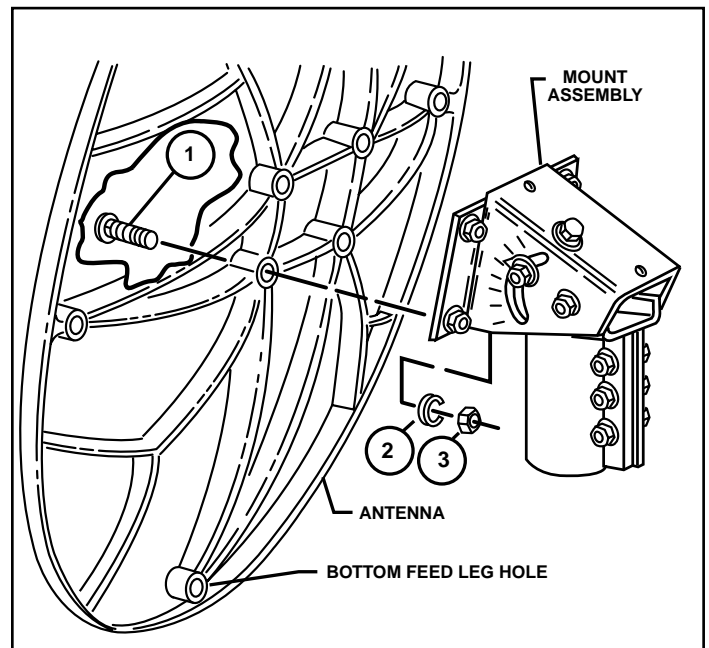

FIG. 2.0 - ASSEMBLING REFLECTOR TO AZ/EL CAP MOUNT
Install four M8 x 60mm (2 $\frac{3}{8}$ ") carriage bolts (1) into holes in center of reflector and assemble to cap mount flanges. (Reference Fig. 2.0) Install four lock washers (2) and hex nuts (3) on bolts. Tighten and torque to 11 ft.-lbs (15 N-m).
IMPORTANT! Bottom feed leg hole to be located as shown in Fig. 2.0.